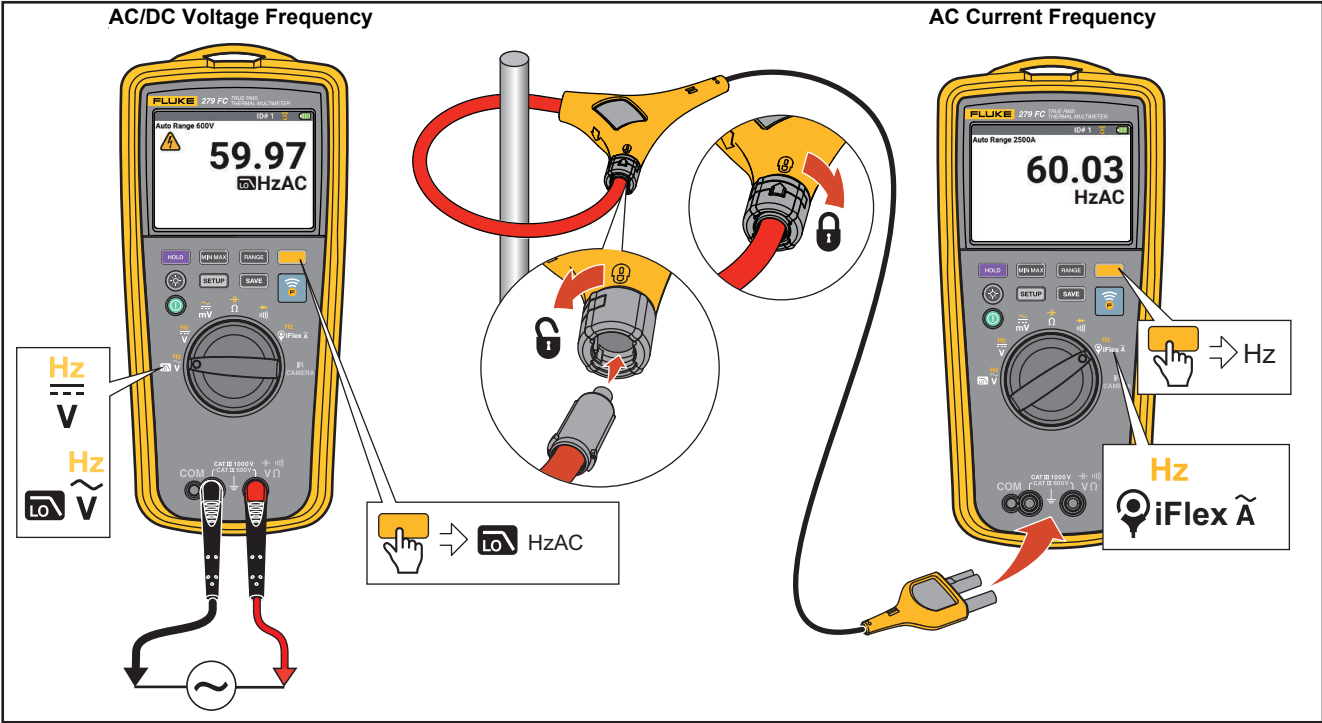

Figure 12. Frequency Measurement
- Frequency Measurements. See Figure 12.
Be sure that you use the correct accessory for the measurement type. See Figure 12.